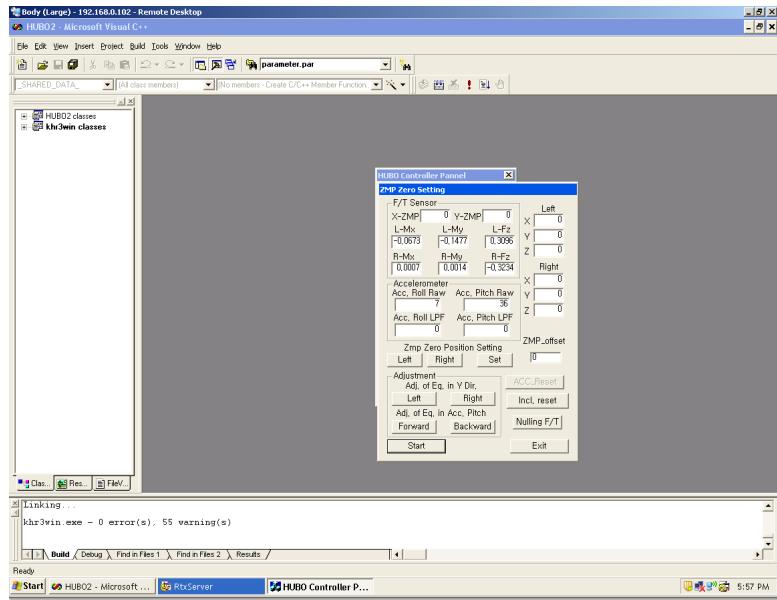

Figure 20: ZMP Zero Set Dialog (After Pressing *FT Null*)
This action will null the force torque (FT) sensors in Hubos ankles and right wrist. Note that the button that previously said *FT Null* now says *Start*, see Figure 20.
5.41 Click *Start* in the ZMP Zero Set Dialog, Figure 20